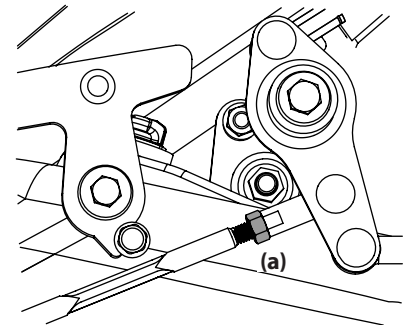

Figure 28
4. Loosen the jam nut (a) and zero out the transmission. See Figure 28. Perform on both sides of the mower.